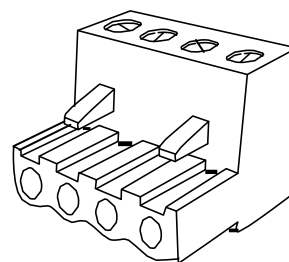

Fig. 10: Loop Wire Connector
- 1 Wire the loop wires into their connectors (Fig. 10). For the pin-out details, use labelling for the loop connections on the board. (The loops are connected to the FC-FI board or the PLX800 board, if fitted).